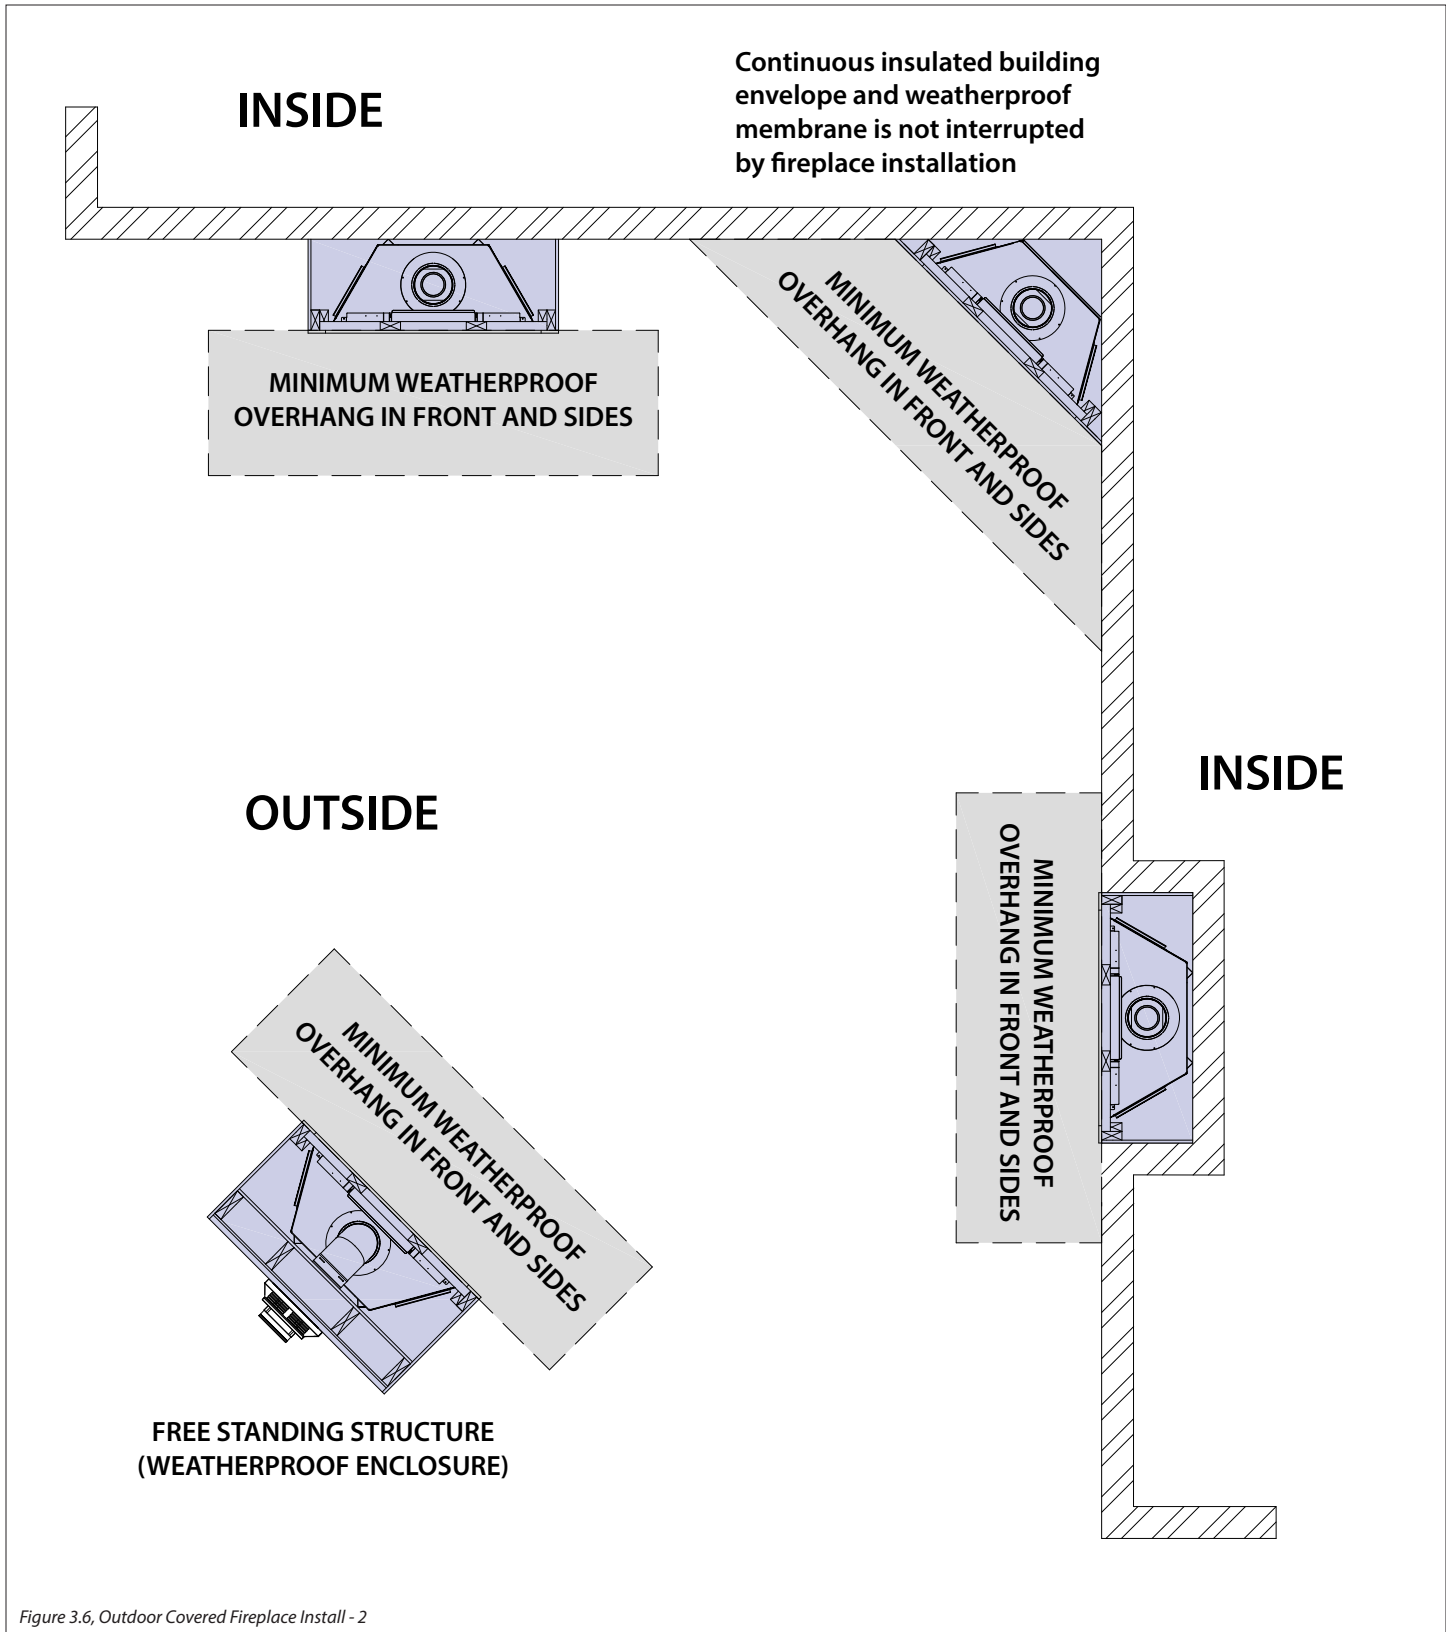

Figure 3.6, Outdoor Covered Fireplace Install - 2
- The continuous insulated building envelope and weatherproof membrane is not to be interrupted by fireplace installation. See Figure 3.6 on the following page..